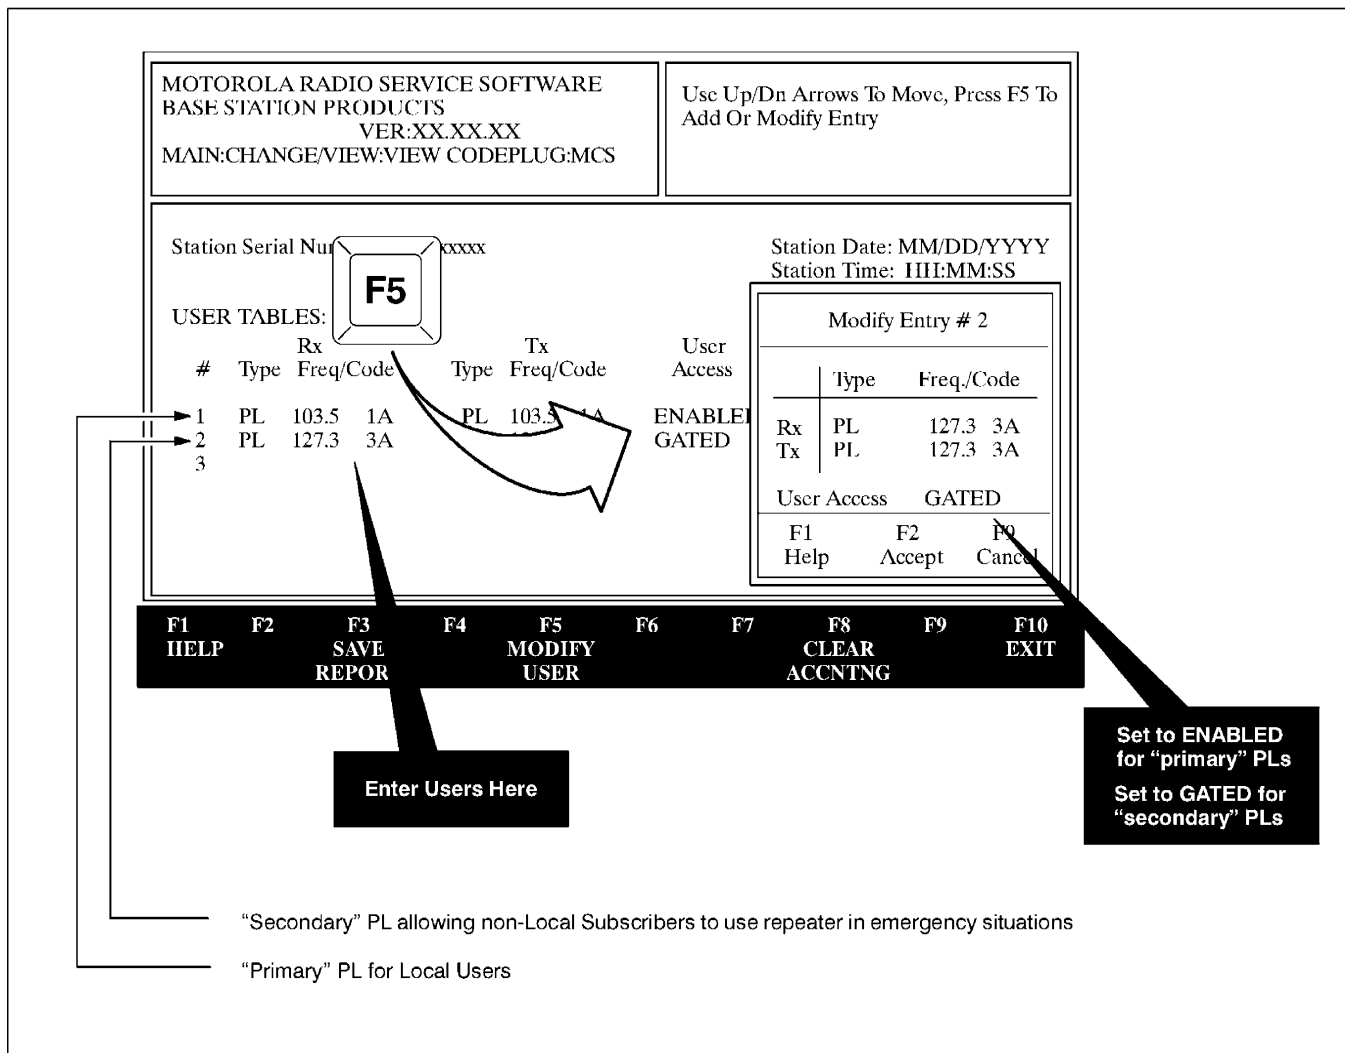

Figure 6. Entering Users and Setting to *Gated*
Step 5. Access the *Multi-Coded Squelch* screen, enter the desired number of users, then set the “secondary” PL’s *User Access* field to **GATED** (as shown in Figure 6). Refer to the *RSS User’s Guide 68P81085E35* for details on setting up users in the *Multi-Coded Squelch* screen.